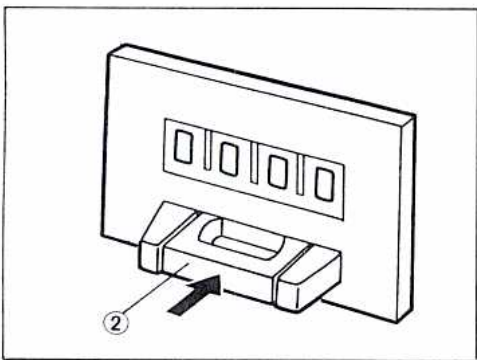

Fig. 6 (Enlarged view of Fig. 5)
- (5) Press the reset button ① to reset the life meter to "000.0." (Fig. 6)